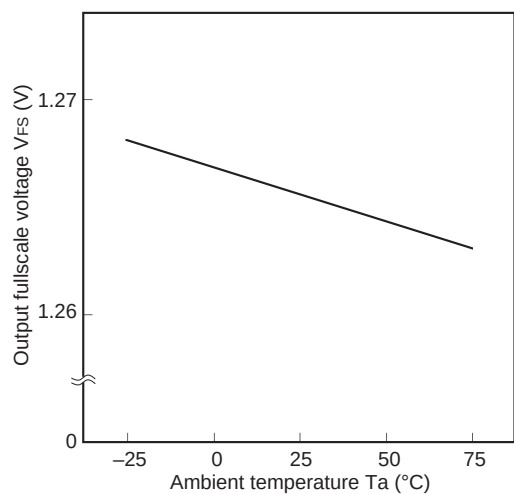

Fig. 3. Ambient temperature vs. Output full scale voltage
- $T_a=25\text{ }^{\circ}\text{C}$ (Except Fig. 3)
- Fig. 3 is input data=all 1